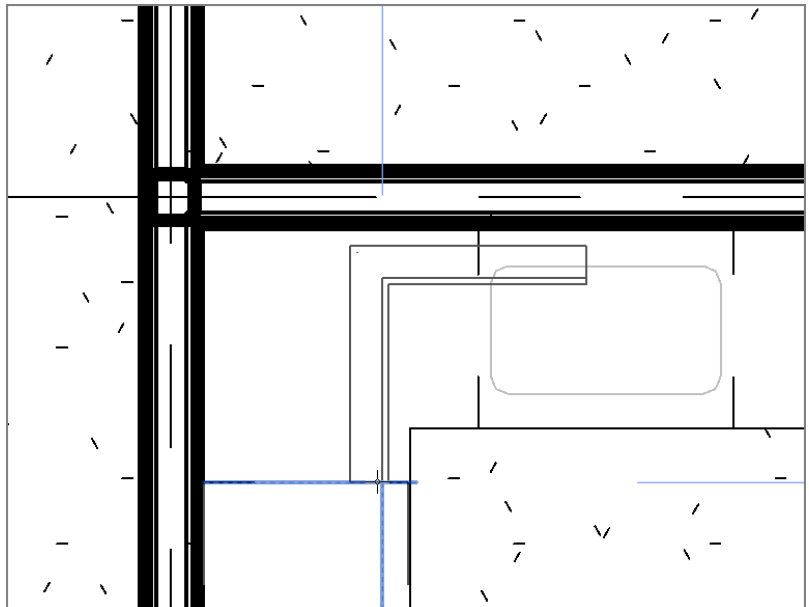

FIGURE 9.60: Adding the filler
12. Place it in the model on the side of the base cabinet, as shown in Figure 9.60.